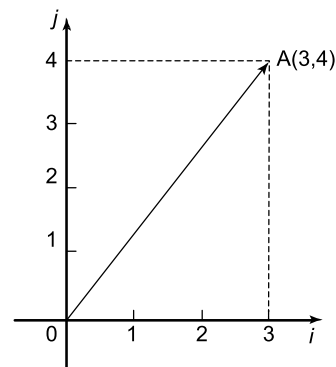

Figure 5.3
- (vi) $xi + jy$, where i and j are axes at right-angles to each other; for example, $3i + 4j$ means 3 units in the i direction and 4 units in the j direction, as shown in Figure 5.3.
- (vii) a column matrix $\begin{pmatrix} a \\ b \end{pmatrix}$; for example, the vector OA shown in Figure 5.3 could be represented by $\begin{pmatrix} 3 \\ 4 \end{pmatrix}$
Thus, in Figure 5.3,